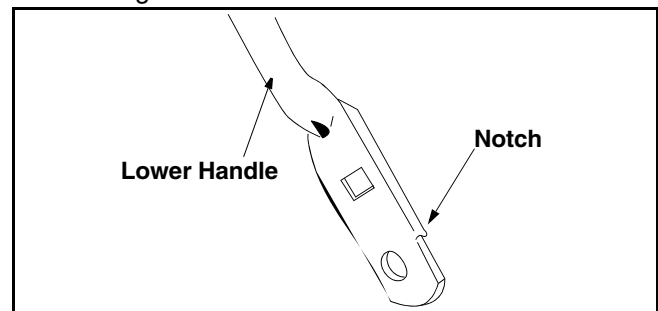

Figure 11
- Turn lower handle around so the notch on the bottom of the lower handle is facing forward. See Figure 11.